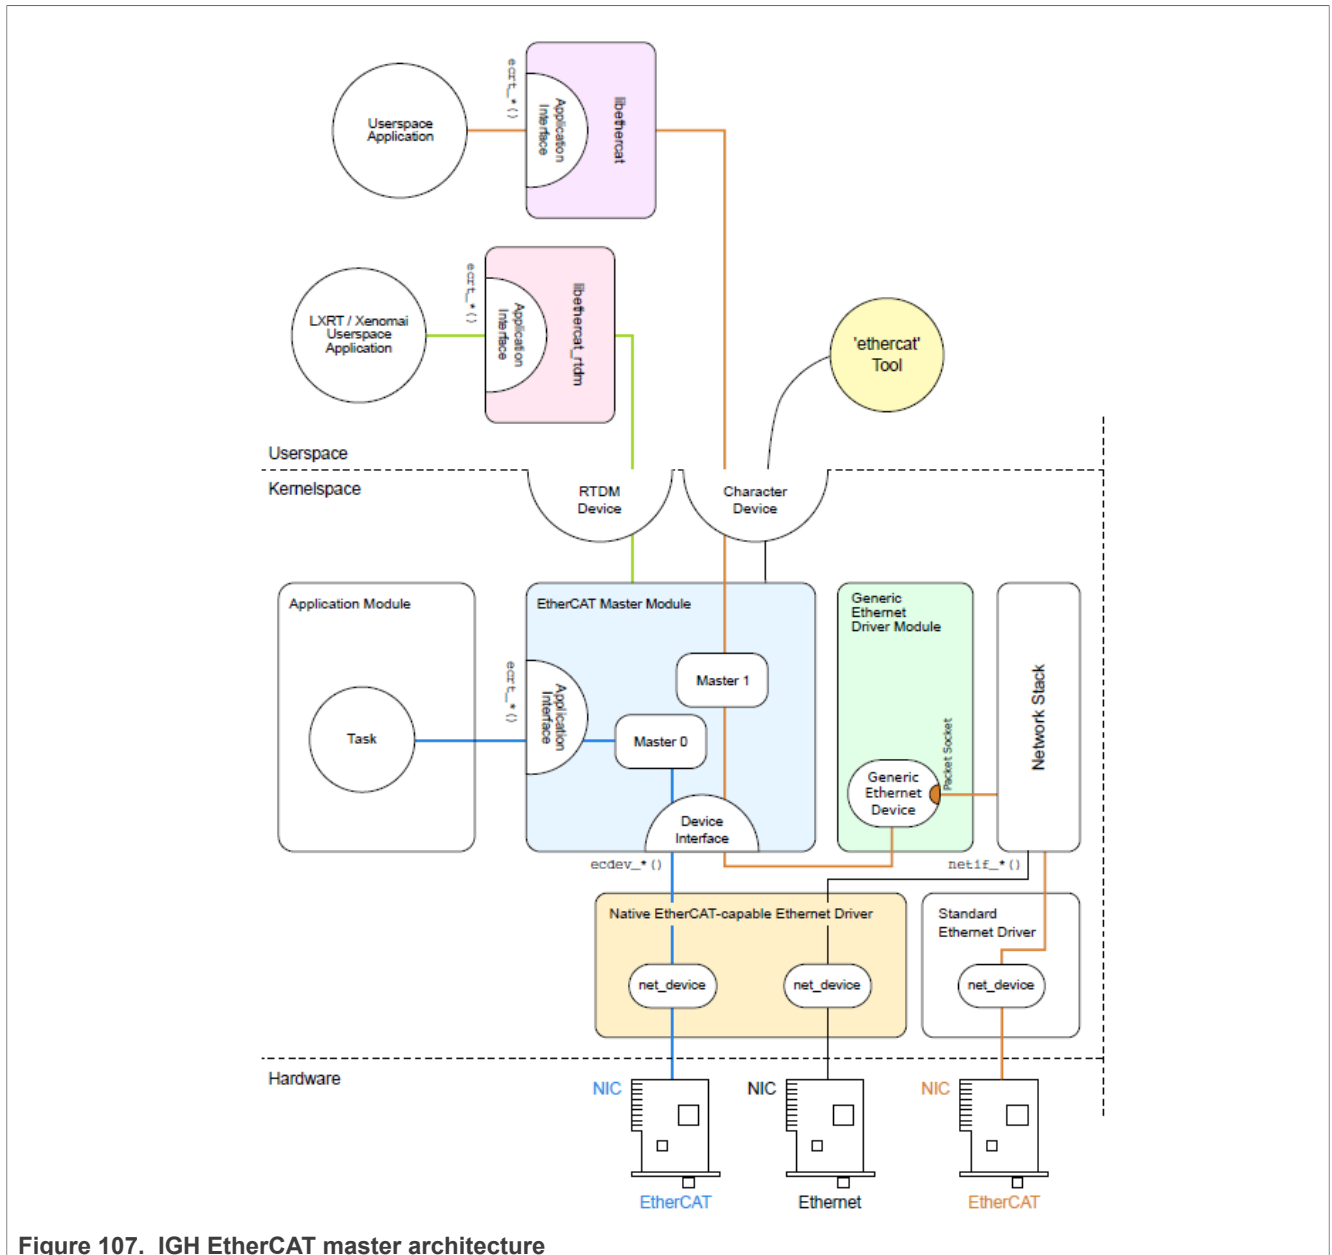

Figure 107. IGH EtherCAT master architecture
- The Figure 107 shows the IGH EtherCAT master architecture.